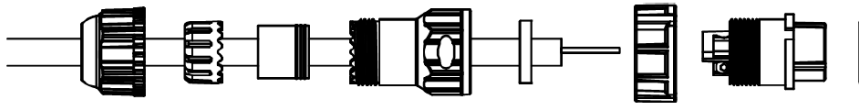

Figure 66: Core wire fixed into the screw fixing point
2. Use a 1.5 mm screwdriver, preferably an allen wrench, to fix the core wire(s) into the screw fixing point (Figure 66).